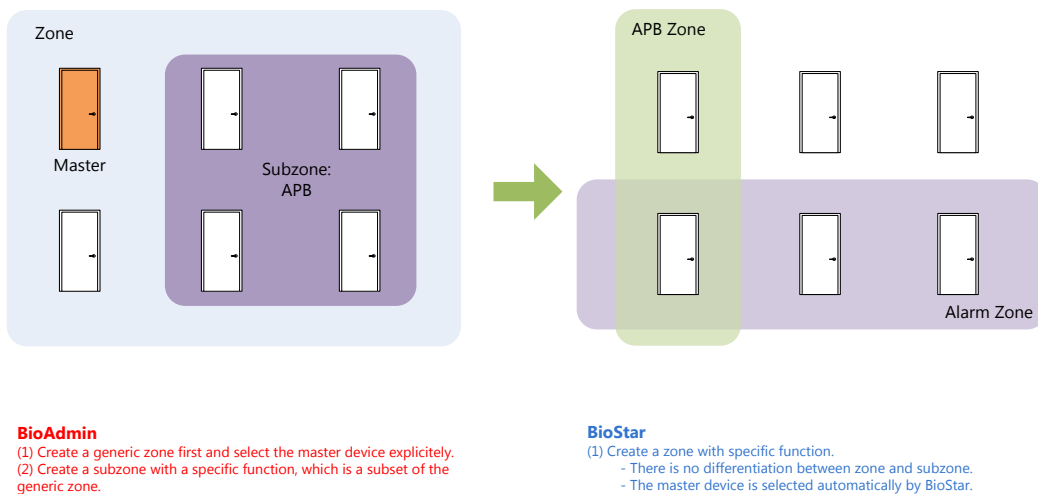

Figure 2. Zone Configuration Procedure
- In BioAdmin, there are two steps for zone configuration. First, a generic zone is created with multiple devices. Then, a subzone with specific function such as anti-passback is created with a subset of the generic zone. In BioStar, the differentiation of zone and subzone is removed. You only have to create a zone with specific function. See Figure 2 for a visual description of this difference.